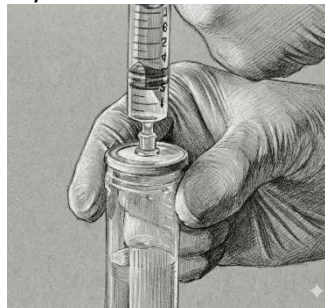

Figure 1: Syringe filter attached to a 50 mL centrifuge tube.
- The TPP syringe filter fits securely on a standard 50 mL centrifuge tube (Fig. 1).